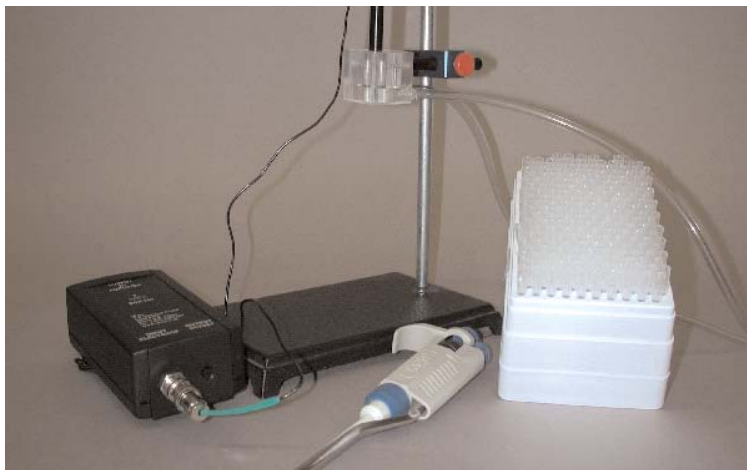

Figure 2: Setup for recording changes in the oxygen concentration of a solution. This setup is also called an oxygen polarograph.
1. Attach the RPC-100 chamber to a ring stand or similar support device (Figure 2).